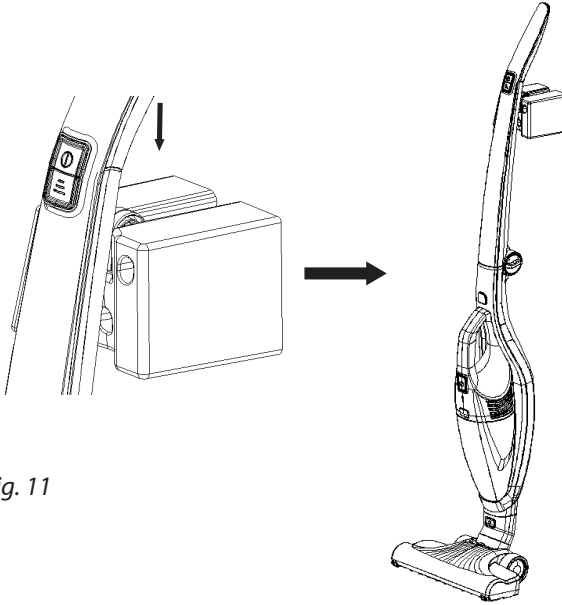

Fig. 11
3. Lift the vacuum cleaner and connect the wall mount holder to the wall mount base (see Fig. 11)